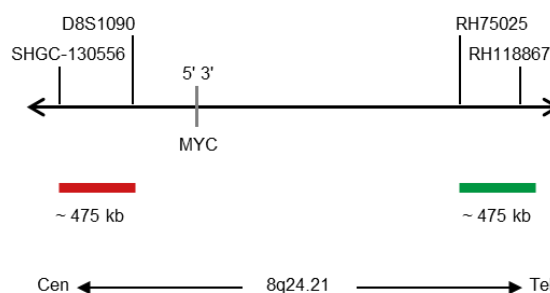

Fig. 1: SPEC MYC Probe map (not to scale)
- Digoxigenin-labeled polynucleotides (~0.50 ng/ $\mu$ l), which target sequences mapping in 8q24.21\* (chr8:130,373,051-130,847,951) distal to the MYC breakpoint region (see Fig. 1).
- Dinitrophenyl-labeled polynucleotides (~0.75 ng/ $\mu$ l), which target sequences mapping in 8q24.21\* (chr8:127,888,765-128,363,281) proximal to the MYC breakpoint region (see Fig. 1).